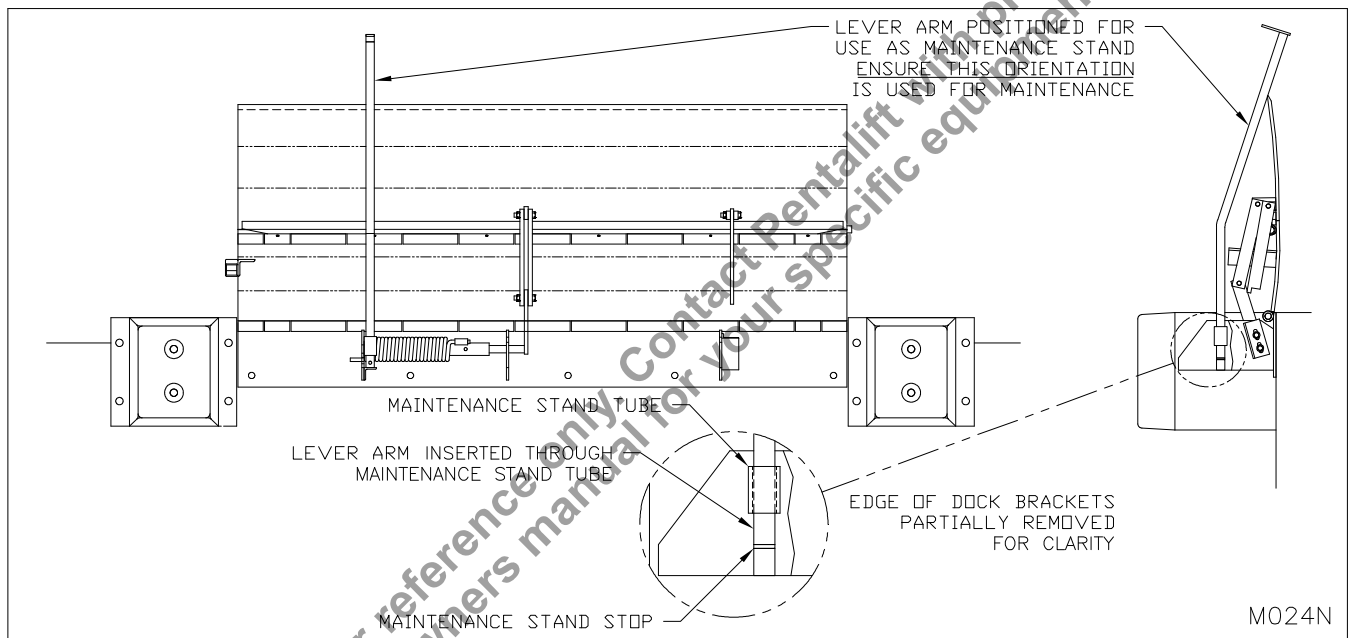
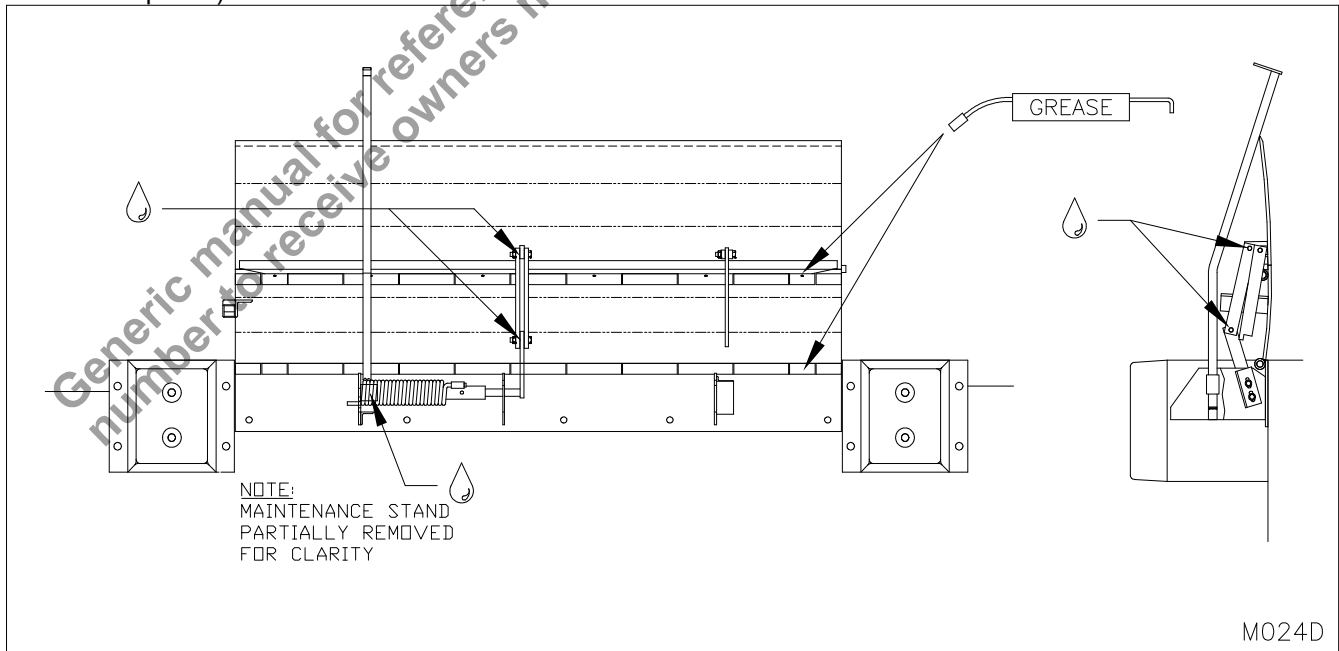

Figure 14: Maintenance Stand Position
Figure 15: Lubrication
1. Ensure the Mechanical Edge Of Dock is in the **Maintenance Position** with **Lever Arm** inserted correctly (See Figure 14: Maintenance Stand Position on page 18 for Maintenance Position).
Use the **Lever Arm** to raise the Mechanical Edge Of Dock to the vertical position shown in Figure 14: Maintenance Stand Position on page 18. Then insert the **Lever Arm** through the **Maintenance Stand Tube**, orientated as shown (See Figure 14: Maintenance Stand Position on page 18 for Maintenance Position).
Ensure the Mechanical Edge Of Dock is in the **Maintenance Position** with **Lever Arm** inserted correctly (See Figure 14: Maintenance Stand Position on page 18 for Maintenance Position). The pivot points requiring external lubrication are the hinges, and upper/lower push rod joints. (Refer to the lubrication points diagram below.) The recommended lubrication **service interval is every 30 days** or at a greater frequency as required in severe environments. **Dexron III Automatic Transmission Fluid** is recommended. (See Figure 15: Lubrication on page 19 for lubrication points).